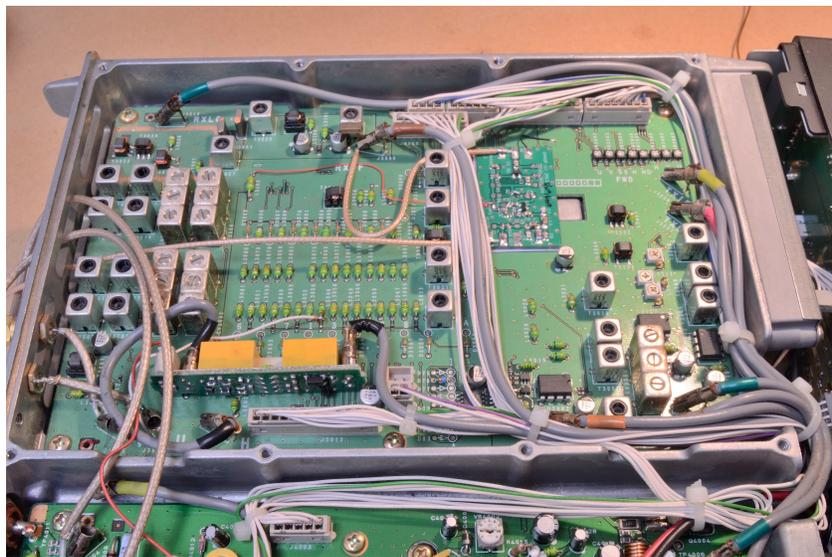

Fig 1 – General view of PAT inside FT847
- 4 The PAT board mounts directly on the RF Unit PCB, at the rear of the space for the speaker- see Fig 1. There is sufficient clearance between the PAT board and the speaker. No internal adjustments or components are obstructed by the mounting position.